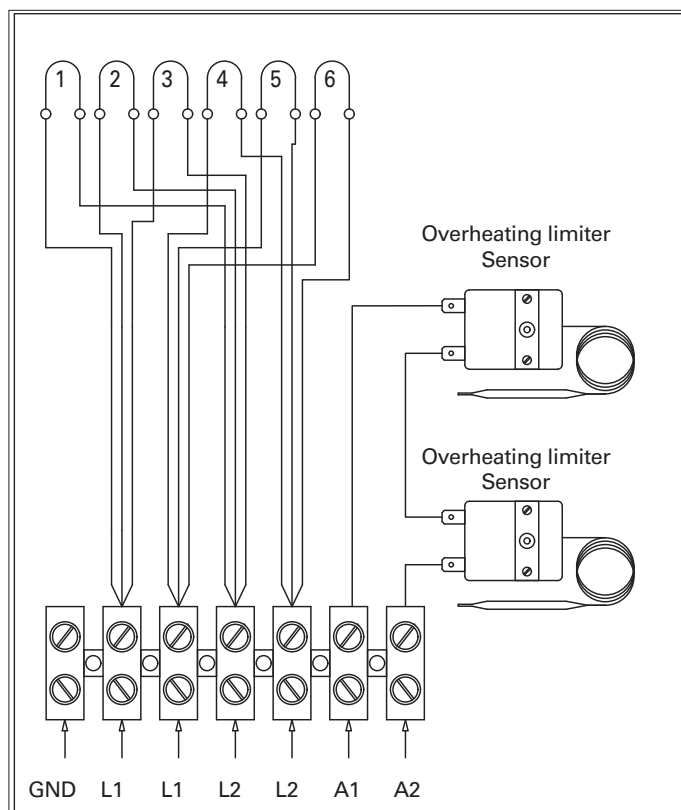

Figure 8. Electrical connections of 240 V 1-phase heaters without contactors (C1000/K10G-U1, C1250/K12.5G-U1, C1500/KG15-U1)
2. See applicable wiring diagram for heater model (figures 8 - 9, see control unit manual for detailed instructions how to connect the heater and the control unit). Heater must be permanently installed (no pigtailed or plugs allowed) and wiring must be done by a licensed electrician, who must follow wiring diagram provided and adhere to local codes. Use proper A.W.G rated wire size and use copper wire suitable for 194°F (90°C) within sauna walls. Use grounding terminals provided in sauna heater and control unit to properly ground the equipment as per NEC and local codes.